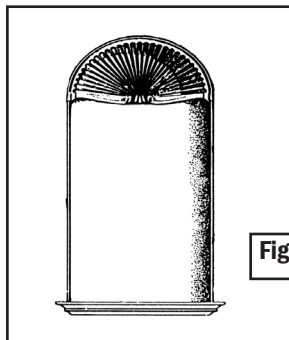

Figure 4
- Toenail or screw into horizontal brace. (*figure 4*)